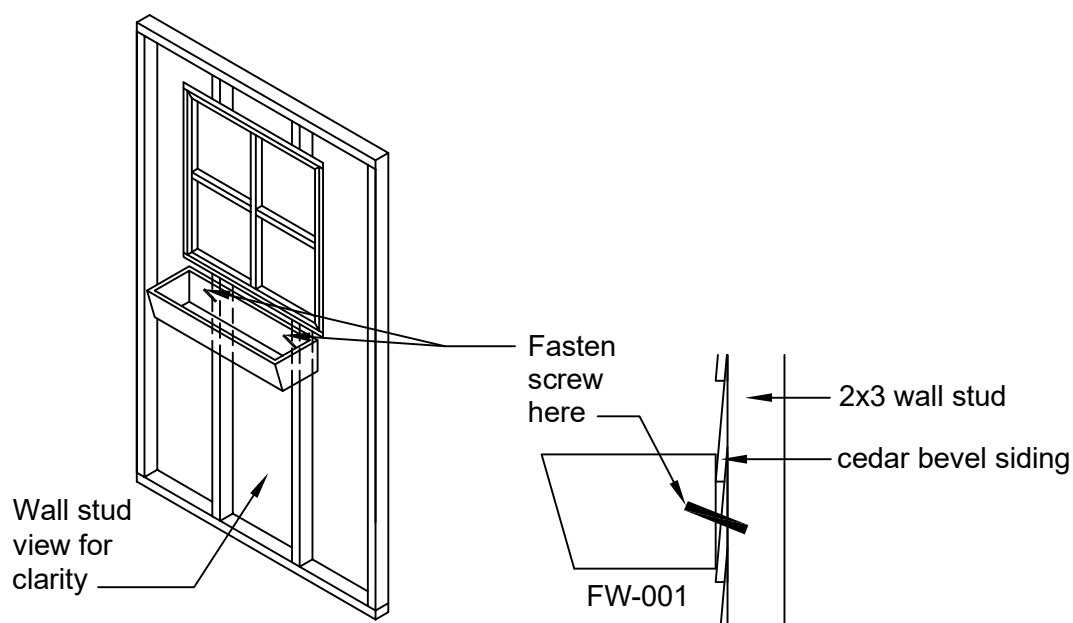

FIGURE S25
- The planter box is fasten with 3" screws which are affixed through the 1x2 batten trim under the window and into the stud. See Figure S25 for details.